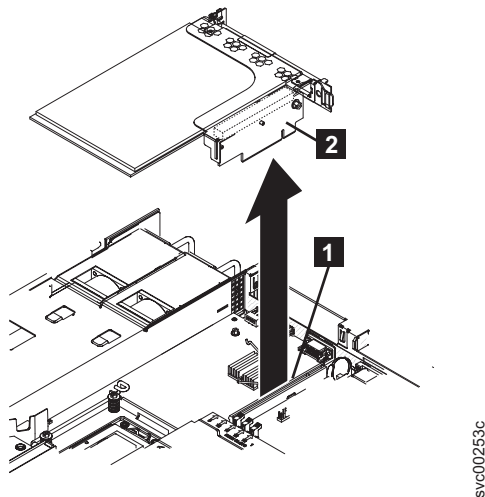

Figure 189. Removing the high-speed SAS riser-card assembly for the SAN Volume Controller 2145-CF8
9. After removing the back-rail retaining screws for the adapter assembly, grasp the riser-card assembly at the rear edge and lift to remove the assembly, as shown in Figure 189.